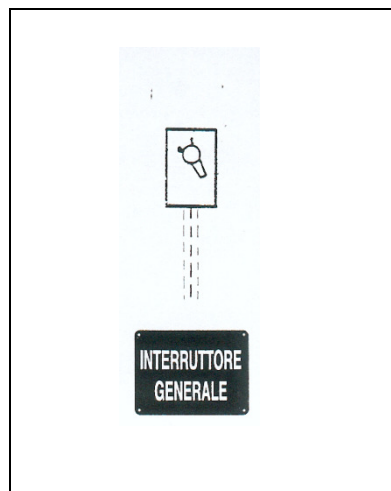

fig.43
- **Install a line switch in the immediate vicinity of the crane to protect against short circuits, indicating its function with a specific plate (fig.43).**